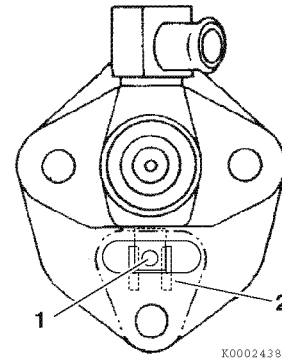
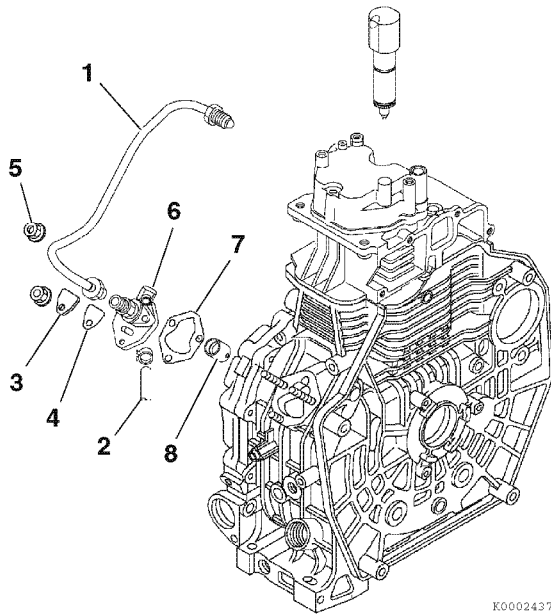

Figure 7-18
Figure 7-19
3. Install the original fuel injection pump shim(s) (7, **Figure 7-19**).
4. Install the fuel injection pump (6, **Figure 7-19**) into the crankcase, ensuring that the fuel injection pump lever pin (1, **Figure 7-18**) is engaged in the governor lever fork (2, **Figure 7-18**).
5. Install the two side mounting nuts (5, **Figure 7-19**) and tighten to specification. See *Special Torque Specifications* on page 7-4.
*Note: If the original fuel injection pump, camshaft and injection pump tappet (8, **Figure 7-19**) are being reused, you do not need to recheck the fuel injection timing. If any of these components have been replaced, it will be necessary to check the fuel injection timing. See *Checking and Adjusting Fuel Injection Timing* on page 7-10.*
6. Install the inspection cover (3, **Figure 7-19**), gasket (4, **Figure 7-19**) and nut. Tighten to specification. See *Special Torque Specifications* on page 7-4.
7. Install the fuel injection high-pressure fuel injection line (1, **Figure 7-19**). Tighten the nuts to specification. *See Special Torque Specifications on page 7-4.*
8. Install the fuel supply line (2, **Figure 7-19**).